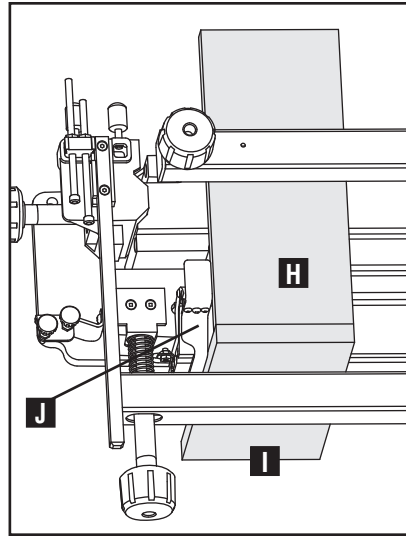
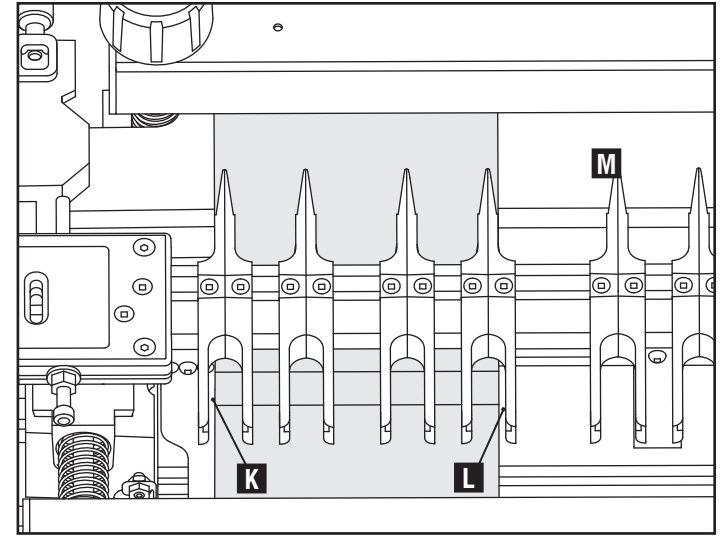

Fig. D6
Fig. D7
6. Pull horizontal scrap (H) Fig. D6 forward against the back of the vertical tailboard (I), as shown in Fig. D6.
7. Be sure both boards are lined up flush against the left offset guide (J).
8. Position the fingers using the supplied square screwdriver. An 1/8" gap is recommended between the vertical board and the fingers as shown at (K) and (L) in Fig. D7. This will help maintain proper spacing at the corners.
NOTE: Before making cut, put at least one finger set (M) Fig. D7 1-2 inches away from the right edge of the vertical board for router stability.